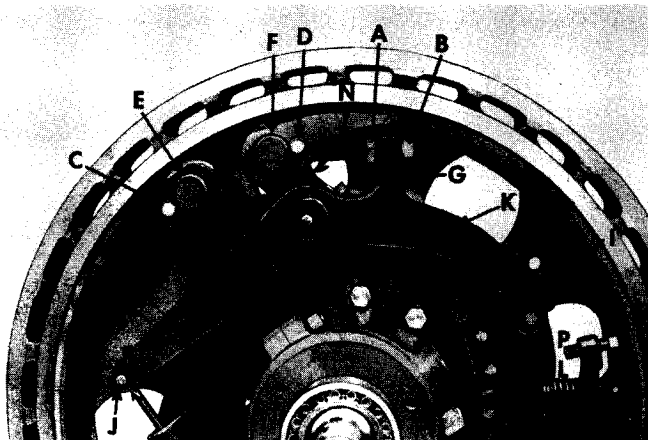

FIG. 10a
The internal expanding drum clutches are easily adjusted to compensate for lining wear. If the main band will not carry the load without slipping when the disc type booster clutch is engaged, adjust the main band as follows: (See Fig. 10a)
4. Turn the clutch until the lever end is at the top as shown in Figure 10a.
The booster clutch discs are in halves and may be removed for replacement as follows: (See Fig. 10a)